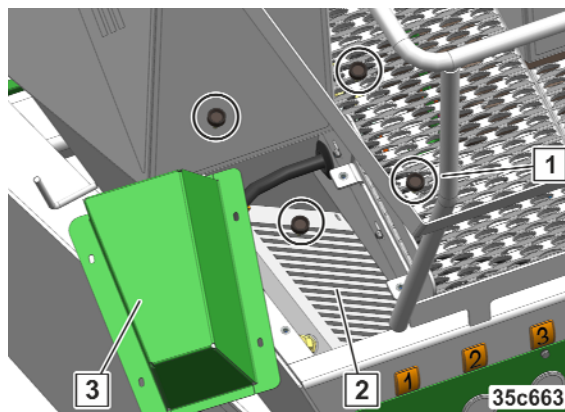

Fig. 314
2. Clean the fan suction protective screen (Fig. 314/3).
3. Loosen and remove all of the knurled nuts (Fig. 314/1).
5. Clean the heat exchanger (Fig. 314/2).